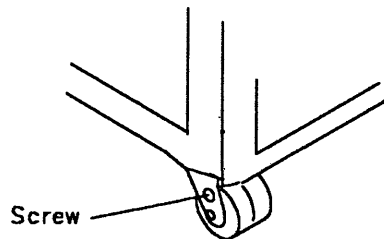

Figure 1-4. Caster Lock Screw
- Step 6. ____ Move the frame to its final position (see Figure 1-1 on page 1-4), and tighten the rear caster lock screws (see Figure 1-4).